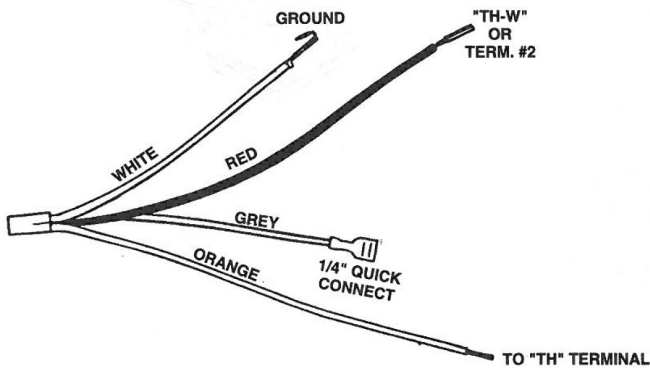

Figure 4
- A. Locate the orange lead wire on the 1751-724 adaptor, See Figure 4. Wire nut it to the power lead that came off terminal #5 or #6 on the old unit.